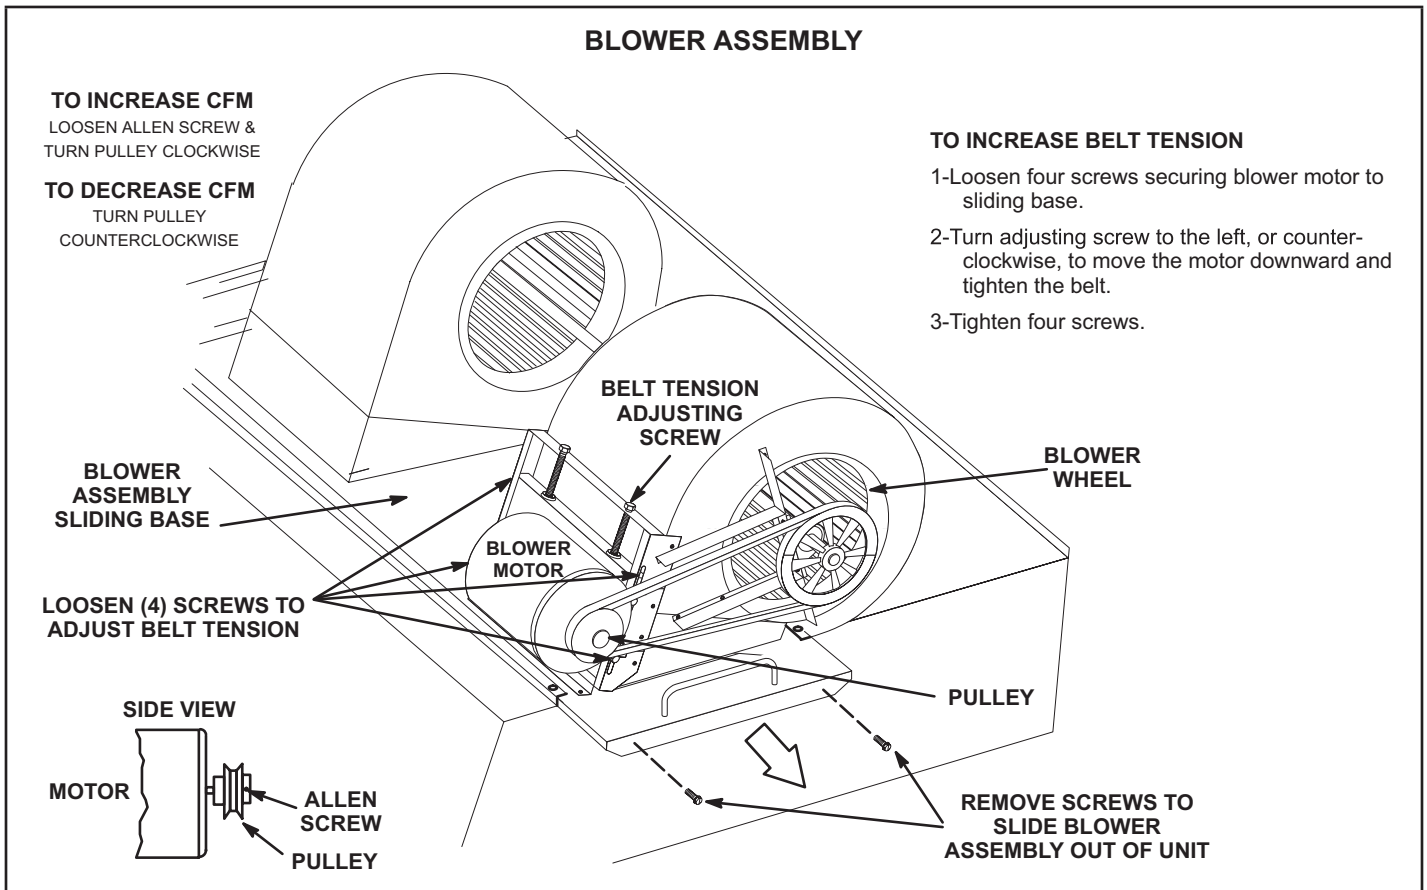

FIGURE 17
- 2 - Remove screws on either side of blower assembly sliding base. See FIGURE 17.
- 4 - The blower RPM can be adjusted at the motor pulley. Loosen Allen screw and turn adjustable pulley clockwise to increase CFM. Turn counterclockwise to decrease CFM. See FIGURE 17. Do not exceed minimum and maximum number of pulley turns as shown in TABLE 7.
- 1 - Loosen four screws securing blower motor to sliding base. See FIGURE 17.